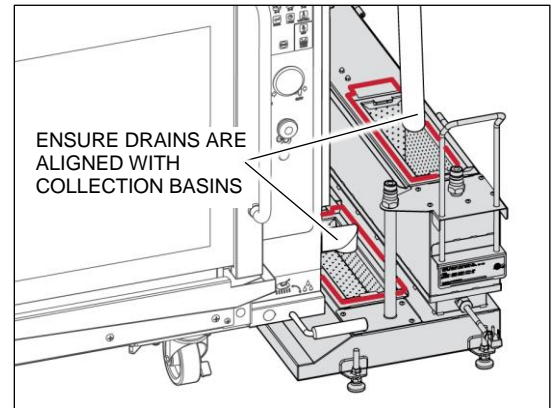

Figure 4-3
2. Verify that the collection reservoir is properly positioned under the grease drain from each rotisserie (Figure 4-3).